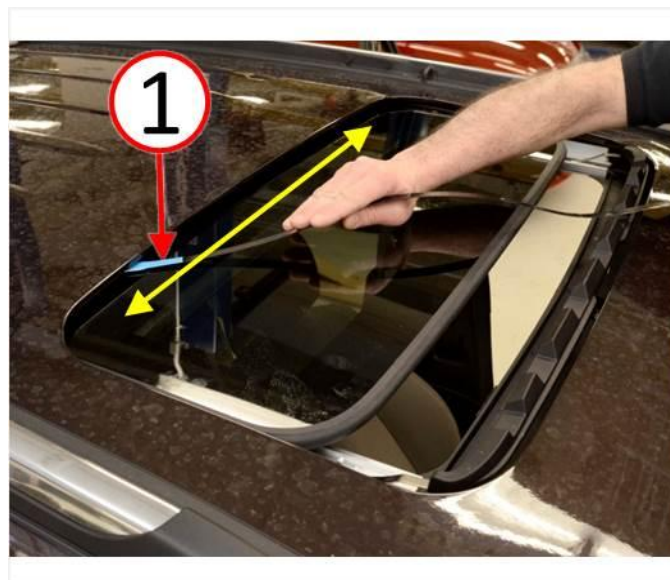

Fig. 15 Sweep Feeler Gauge Side To Side
22. Insert the 1.0 mm (0.04 in.) non-marring feeler gauge between the underside of the vehicle roof and topside of the sunroof glass. Sweep the feeler gauge from side to side over the entire surface of the sunroof glass to check for interferences (Fig. 15).